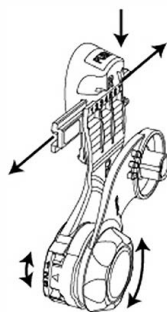

fig.7
• Front and back bands will automatically self-adjust according to headform, and soft pads suit forehead and back of head perfectly, which will bring more comfort (See fig.7). Test the fit of the headband by lifting up and closing down the helmet a few times while wearing it. If the headband moves while tilting, re-adjust it until it is stable.
Tilt adjustment is located on right side of helmet. To adjust the resting position and rotation range, loosen tension knob, rotate lever to 1 of the 3 positions and tighten tension knob. (See fig.7).